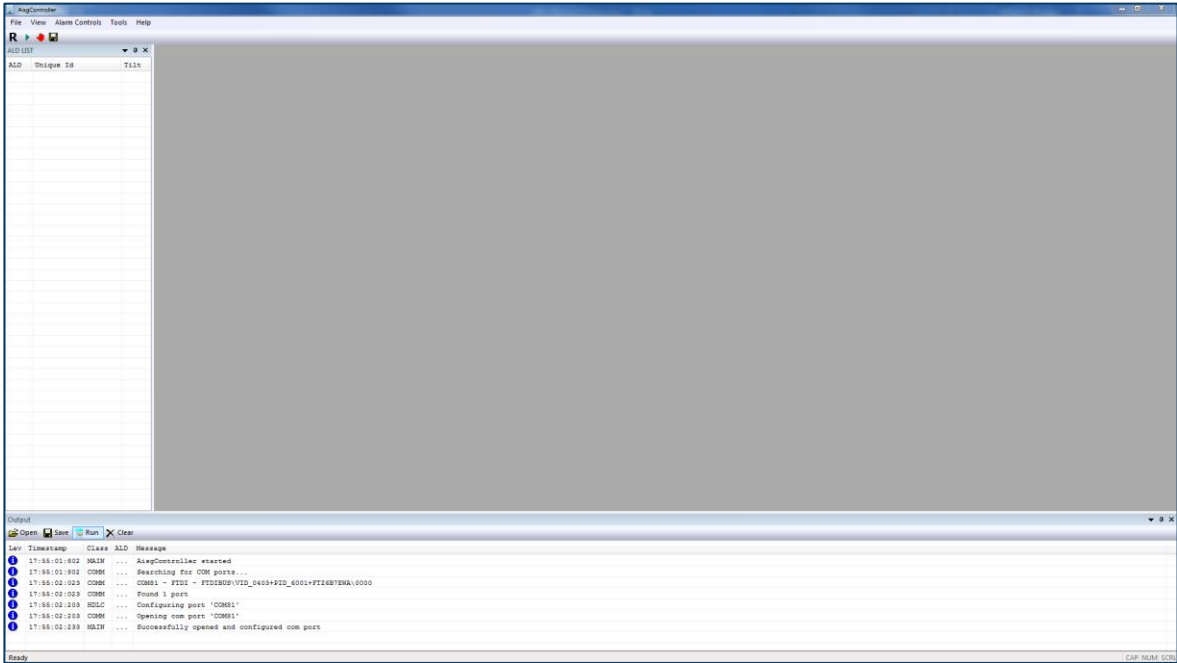

Fig. 7- Blank Commands and ALD List before antenna information
3. When launching the GUI, the screen or window display will first look like *Figure 7*.